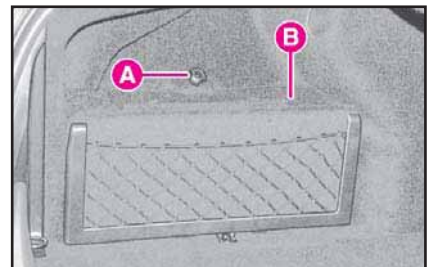

fig. 130
- 2) Loosen knob **A** (fig. 130) and remove the battery cover **B**.